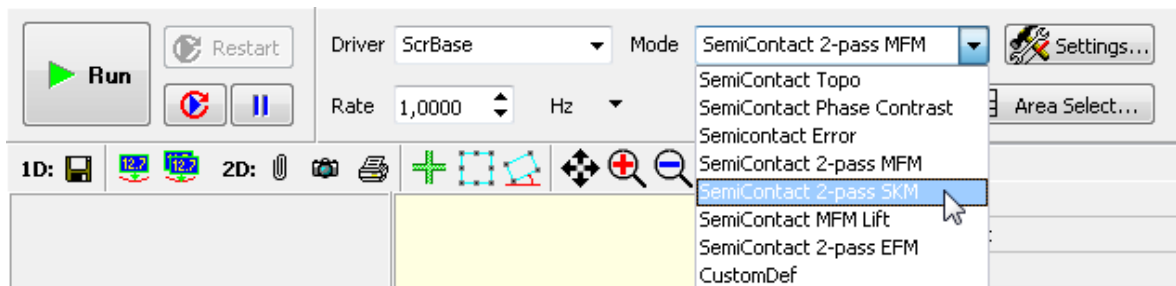

Fig. 9-9. Selecting the Kelvin Probe Microscopy
1. Switch the instrument for operating in the SKM mode by selecting **Semicontact 2-pass SKM** of the Control panel of the **ScanForm** window (see Fig. 9-9). The **Height** signal will be selected for detection on the first pass and the **SurfPot** signal – on the second pass.